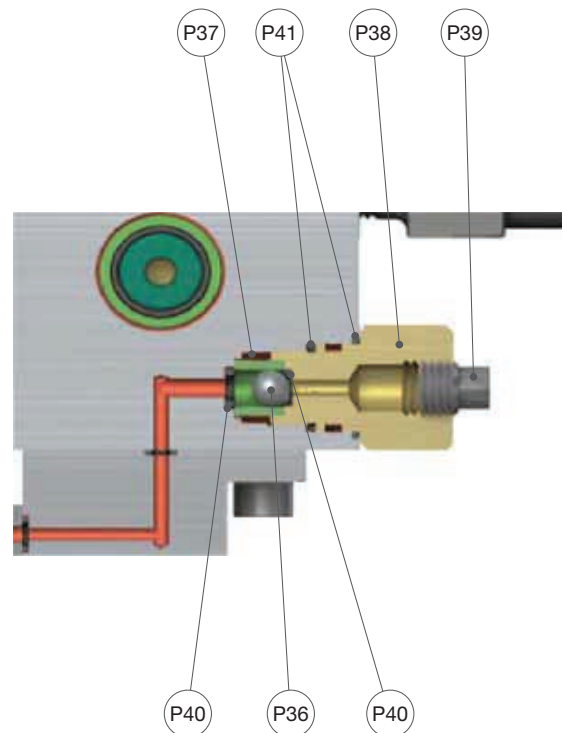

Figure 36: Field Test Connection Assembly
B. Field Test Connection (Figure 36)